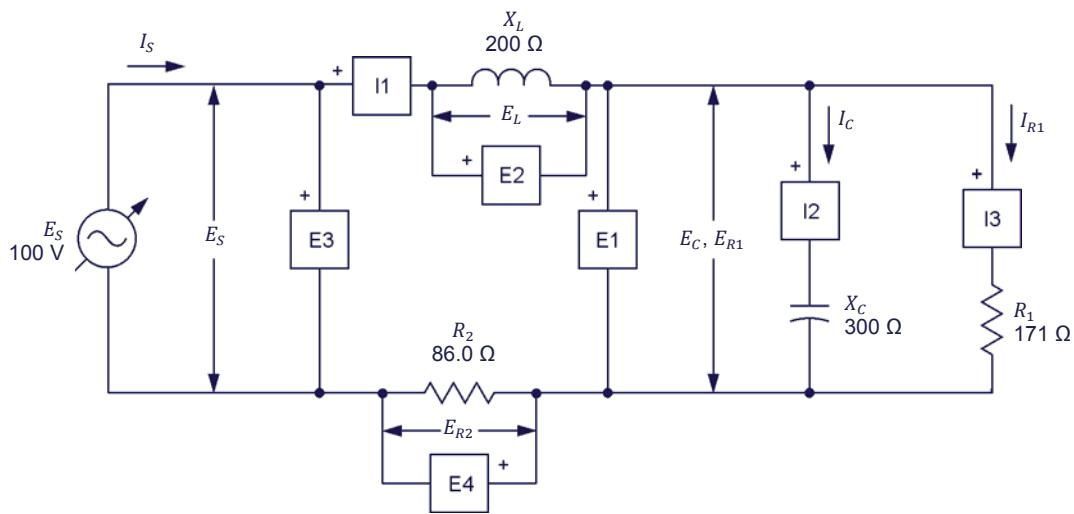

Figure 4-9. AC circuit containing two resistors, an inductor, and a capacitor, and set up for circuit analysis.
6. Set up the circuit shown in Figure 4-9.
8. Resolve the entire circuit of Figure 4-9 using the power triangle method. Assume that the capacitor voltage  $E_C$  ( $E_C = E_{R1}$ ) is equal to 50.0 V.